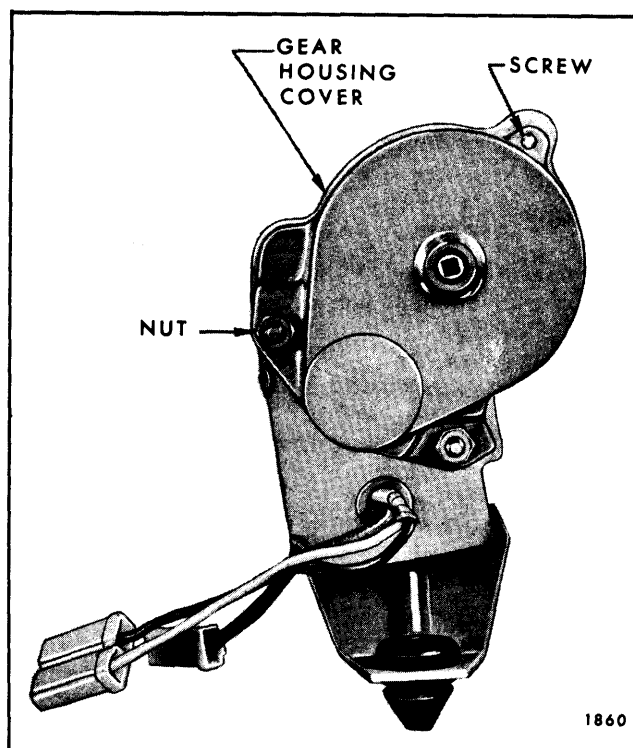

Fig. 13-74—Folding Top Lift Assembly
3. Remove nuts, washers and screw securing gear housing cover to motor assembly (Fig. 13-74).